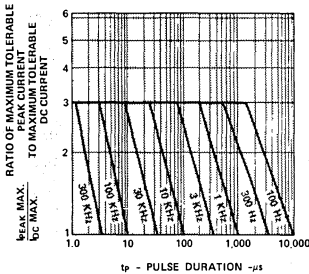

Figure 5. Maximum Tolerable Peak Current vs. Pulse Duration (I_{DCMAX} as per MAX Ratings)
1. See Figure 5 (Red), 10 (Yellow), or 15 (Green) to establish pulsed operating conditions.